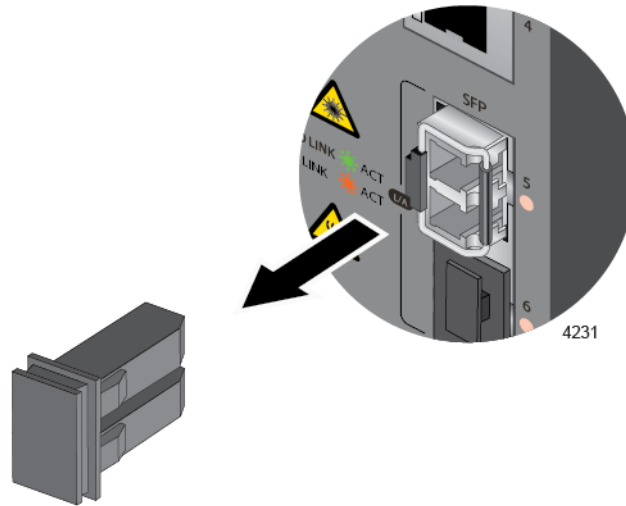

Figure 27. Removing the Dust Cover from an SFP Transceiver
4. Remove the dust cover from the transceiver. Refer to Figure 27.